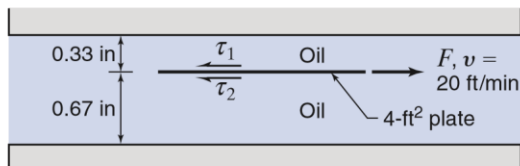

Fig. A.1:
Figures A.1 and A.2 in Appendix A graphically present numerical values of absolute and kinematic viscosities for a variety of liquids and gases, and show how they vary with temperature.
An important practical distinction between the two viscosities is the following. The absolute viscosity  $m$  of most fluids is virtually independent of pressure for the range that is ordinarily encountered in engineering work; for extremely high pressures, the values are a little higher than those shown in Fig. A.1. The kinematic viscosity  $n$  of gases, however, varies strongly with pressure because of changes in density. Therefore, if we need to determine the kinematic viscosity  $n$  at a nonstandard pressure, we can look up the (pressure-independent) value of  $m$  and calculate  $n$  from Eq. (2.11). This will require knowing the gas density,  $r$ , which, if necessary, we can calculate using Eq. (2.4).
- 2.11.7** (a) What is the ratio of the absolute viscosity of water at a temperature of 70°F to that of water at 200°F? (b) What is the ratio of the absolute viscosity of the crude oil in Fig. A.1 ( $\mu = 0.925$ ) to that of the gasoline ( $\mu = 0.680$ ), both being at a temperature of 60°F? (c) In cooling from 300 to 80°F, what is the ratio of the change of the absolute viscosity of the SAE 30 Western oil to that of the SAE 30 Eastern oil? Refer to Appendix A.